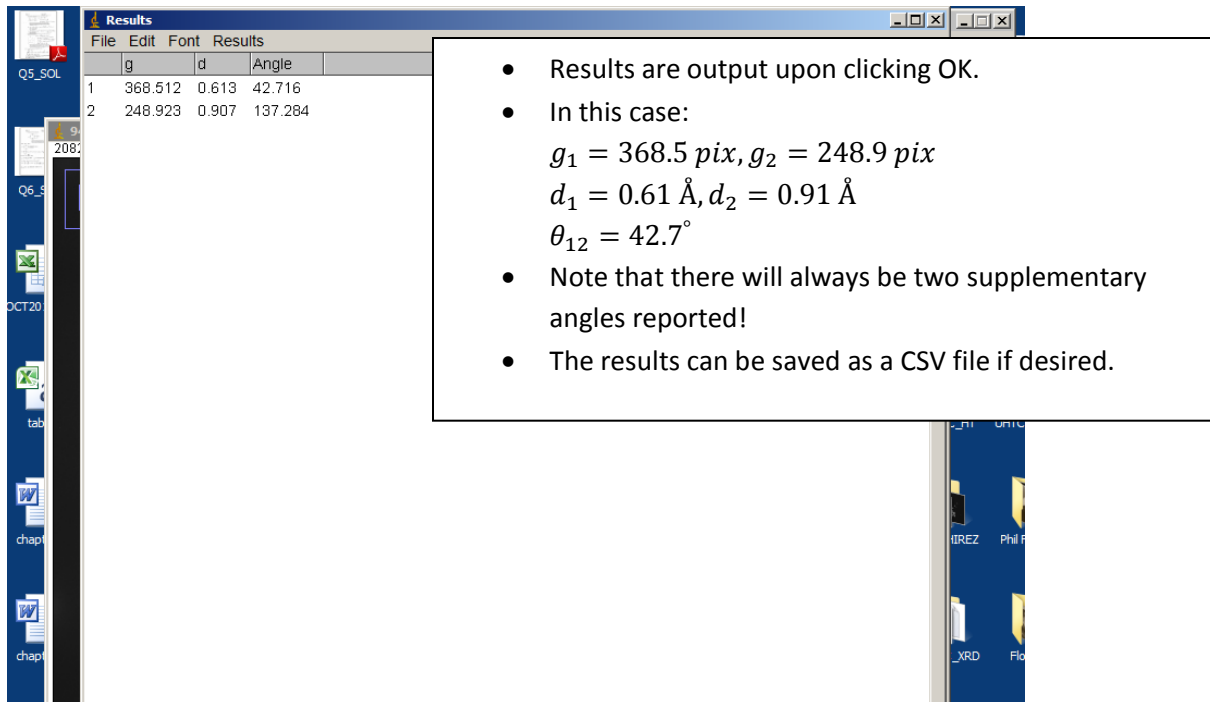

Figure 5: Results
5. A results window will now pop up showing two g-vector lengths in pixels, two associated d-spacings in Å, and two supplementary inter-spot angles in degrees (Figure 5).